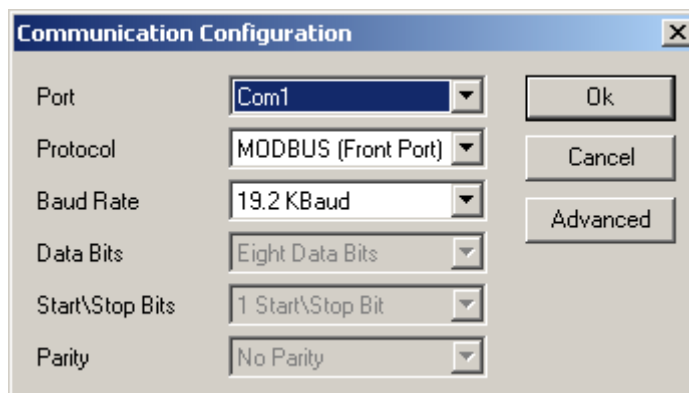

Figure 5-2 Communication Configuration dialog
1. From the Menu Toolbar, select **Communications > Configure**. The Communication Configuration dialog displays. See Figure 5-2.